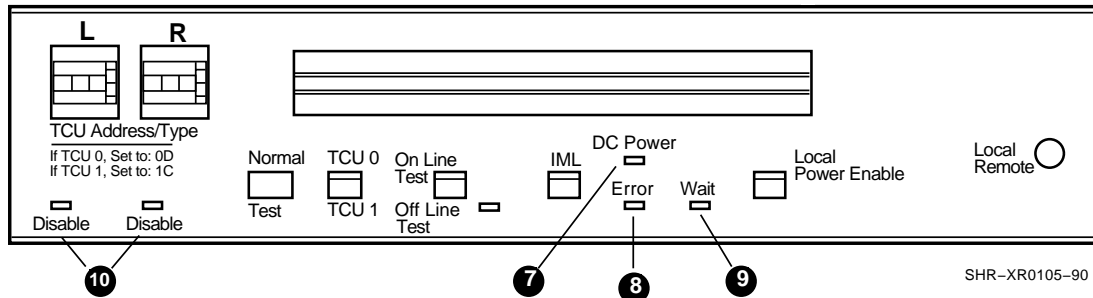

Figure 2-10 DC Power, Error, Wait, and Disable Lights
The tape control unit DC Power light ⑦ is on when dc power is supplied to the tape control unit (Figure 2-10).
The Error light ⑧ comes on when an error has been detected (Figure 2-10). If the light is blinking, the error was detected by the microprogram but does not affect tape control unit integrity. If the light is constantly on, the error was detected by the hardware, and the tape control unit is disabled.
The Wait light ⑨ blinks while the subsystem is operating (Figure 2-10). When the subsystem is waiting for work, the light is constantly on. When the light is constantly off, the subsystem has had an error.
The Disable light ⑩ for each STI-FIPS interface either blinks or stays on during power-up and turns off after a normal power-up (Figure 2-10). If the light is on after normal power-up, subsystem communication on the corresponding interface is prevented.